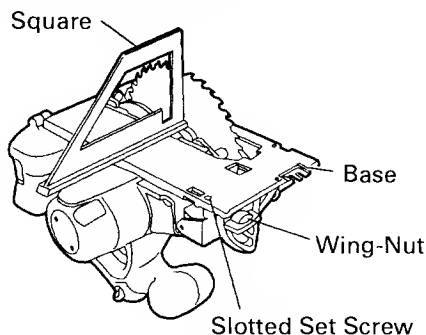

Fig. 23
(1) Turn the base face up (Fig. 23) and loosen the wing-nut.
(2) Apply a square to the base and the saw blade and, turning the slotted set screw with a slotted-head screwdriver, shift the position of the base to produce the desired right angle.